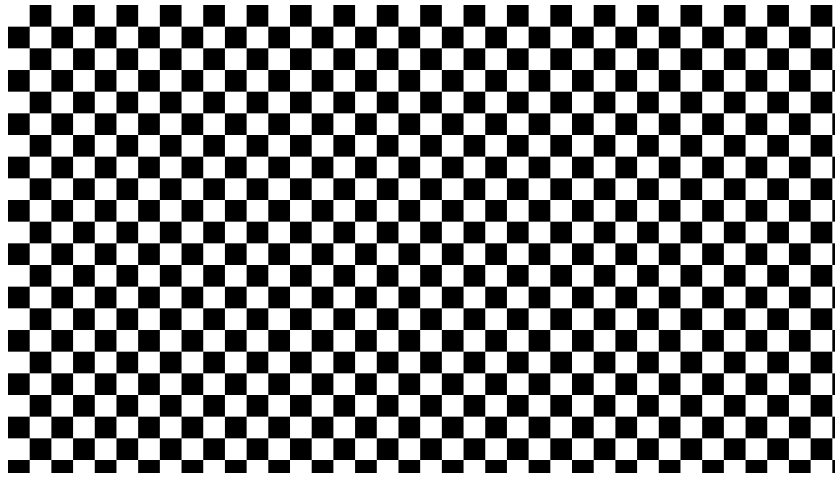
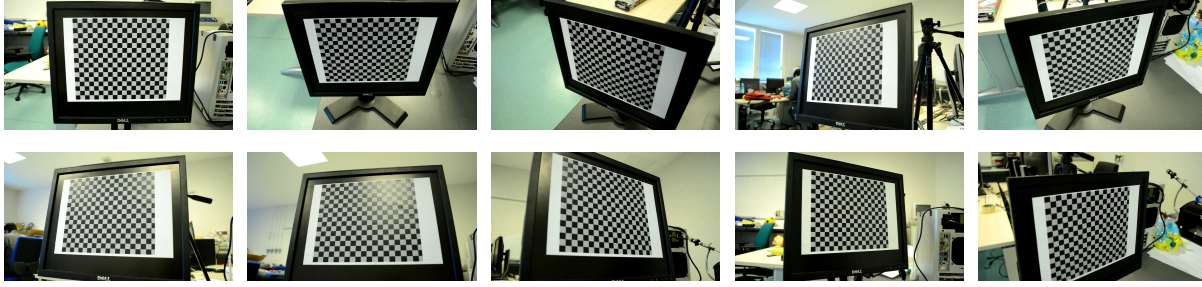

Figure 1: The calibration pattern.
Figure 2: Example of calibration images required to perform the camera calibration.
- a set of images where the calibration pattern, shown in the figure 1, is visible in at least 10 different viewpoints. Figure 2 shows an example of a set of calibration images. §2.7 describes how to take such set of images.